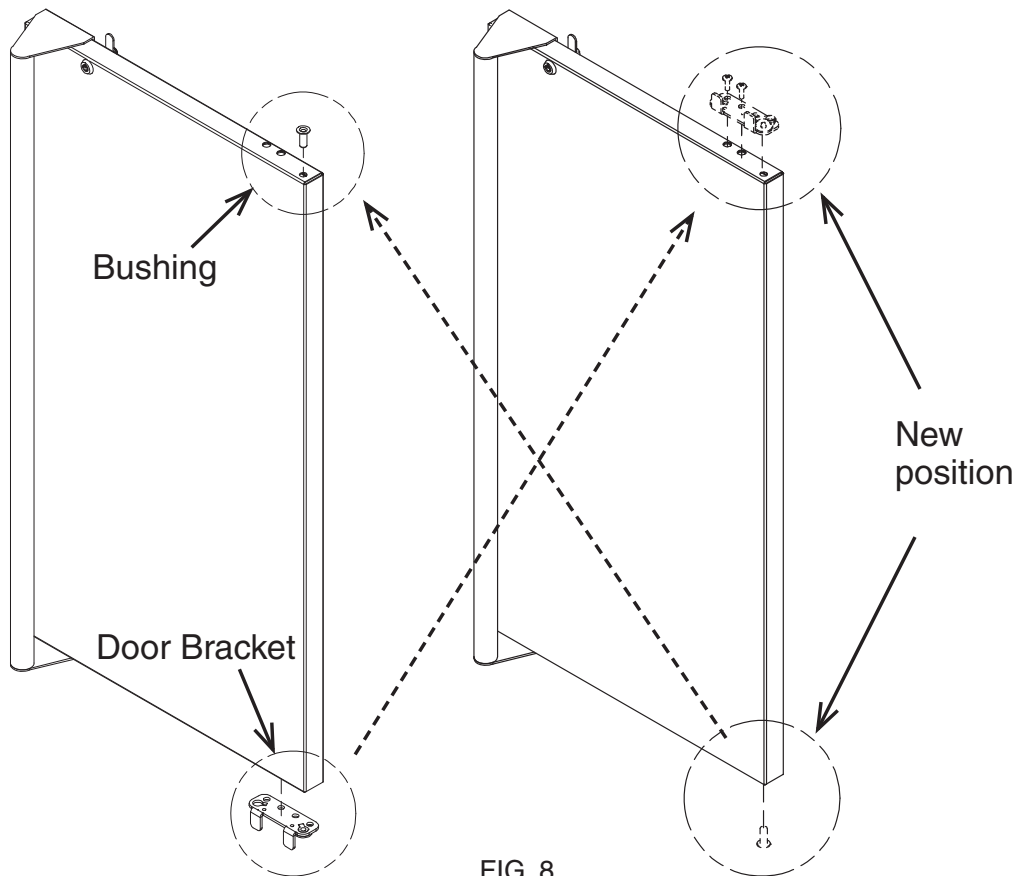

FIG. 8
**Step 6.** Next move the Bushing to the lower part of the door, and the Door Bracket to the upper part of the door. See figure 8.